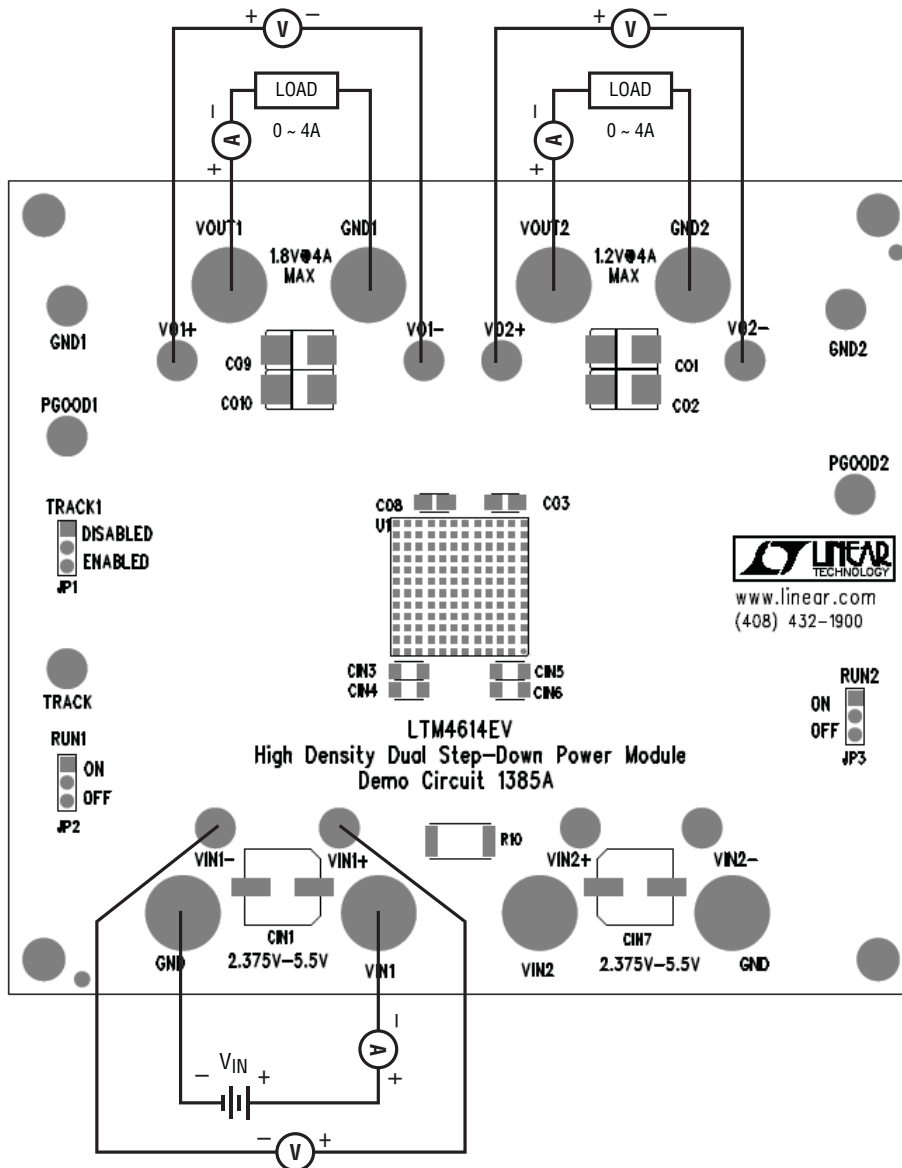

Figure 1. Test Setup of DC1385A
Demonstration circuit DC1385A is an easy way to evaluate the performance of the LTM4614EV. Please refer to Figure 1 for proper measurement equipment setup and follow the procedure below:
2. With the power off, connect the input power supply, load and meters as shown in Figure 1. Preset the loads to 0A and  $V_{IN}$  supply to be less than 5.5V.